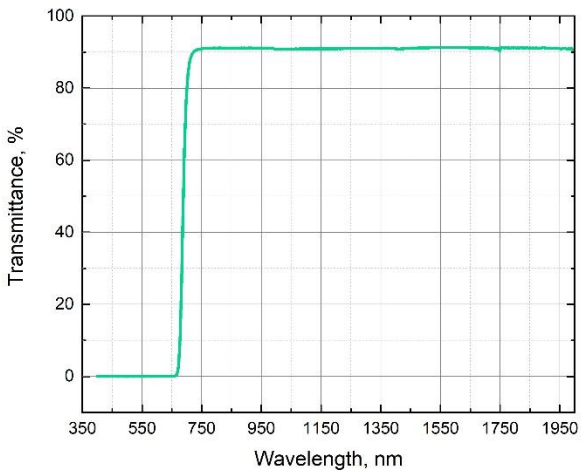

Figure 2. IR cut-off filter transmittance
3. Use the software provided functionalities shown in Fig. 2 to suit your application needs.